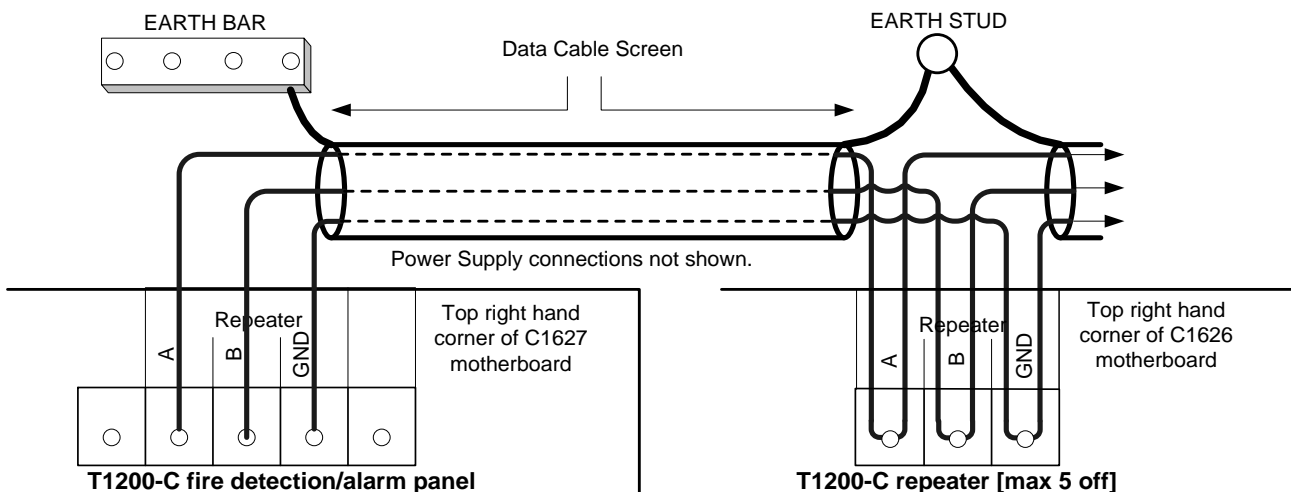

Figure 4- Repeater connection diagram
4. Connect the RS485 data cable as shown in Figure 4.